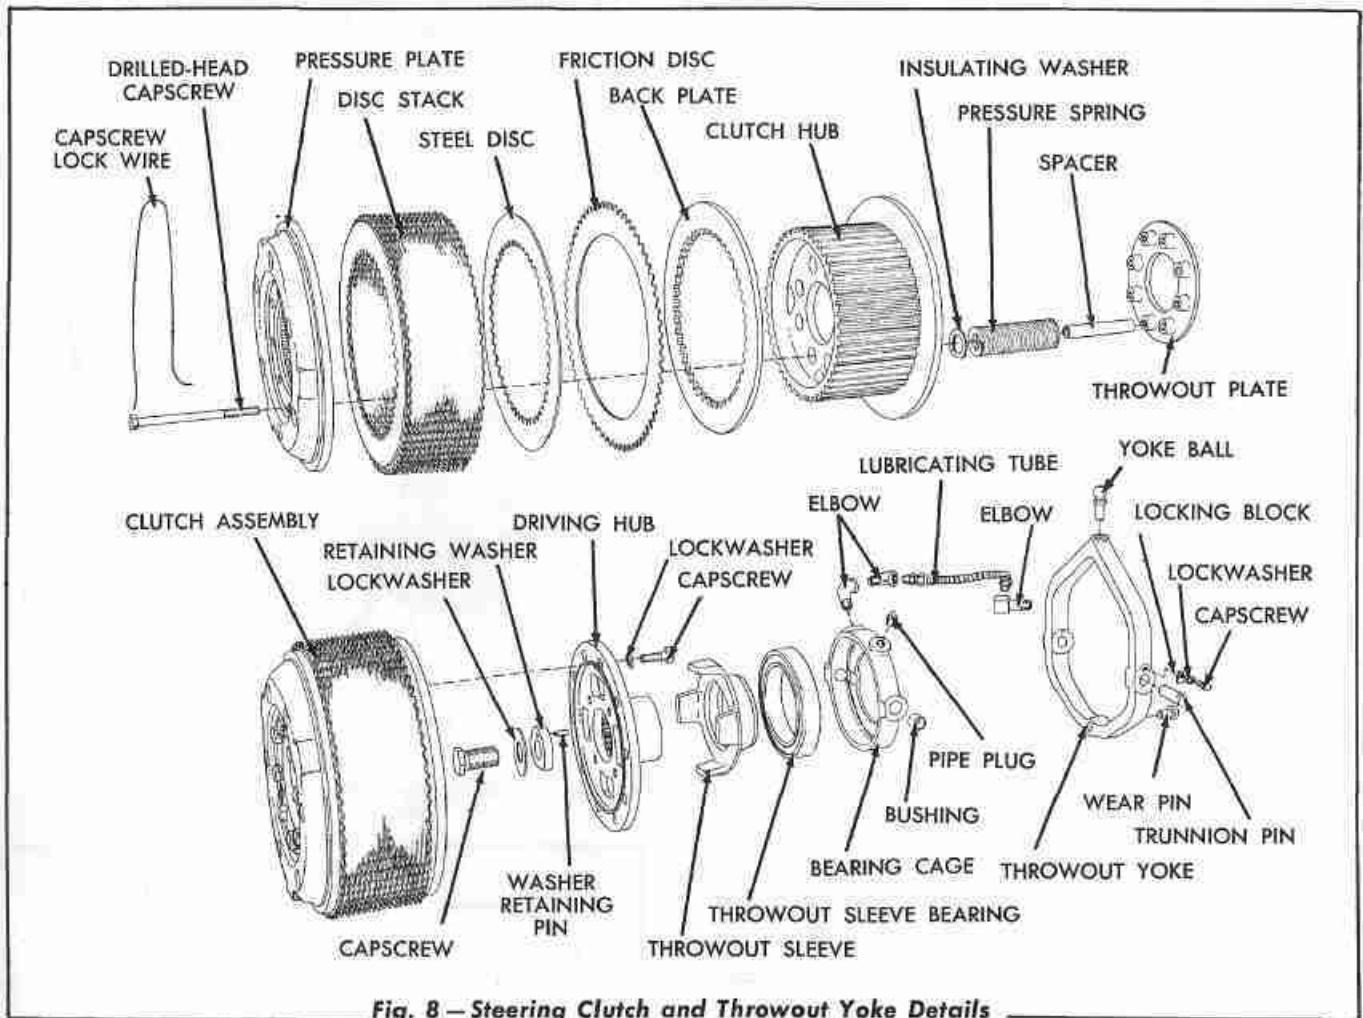

Fig. 8 — Steering Clutch and Throwout Yoke Details
2. Before disassembling the steering clutch, refer to Fig. 8 and center punch or mark the clutch pressure plate, back plate, hub, and the throwout plate so that they can be reassembled in their same relative position.
Refer to Figs. 8 and 9 showing the steering clutch components in their relative position.